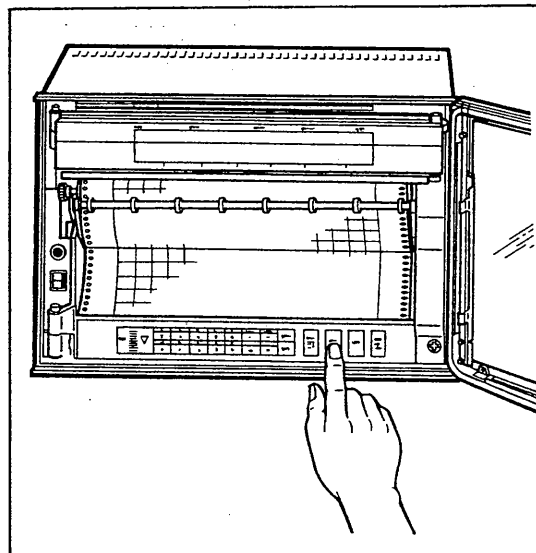

Figure 5-8.
- (8) Check that the chart paper perforation holes are fit with the chart paper feed roller sprockets. Press the **CHART FEED** key and check that the chart paper advances correctly (see Figure 5-8).